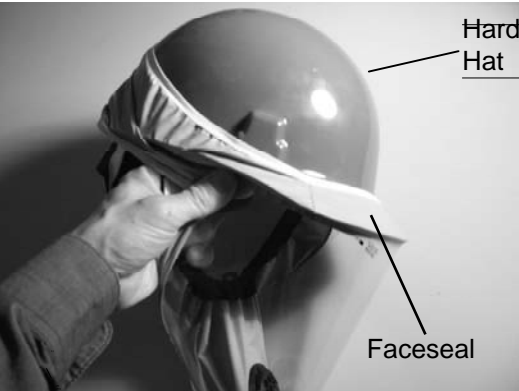

Figure 22
1. Pull the Visor Faceseal over the Hard Hat with the Visor pulled over the Brim (fig. 22).